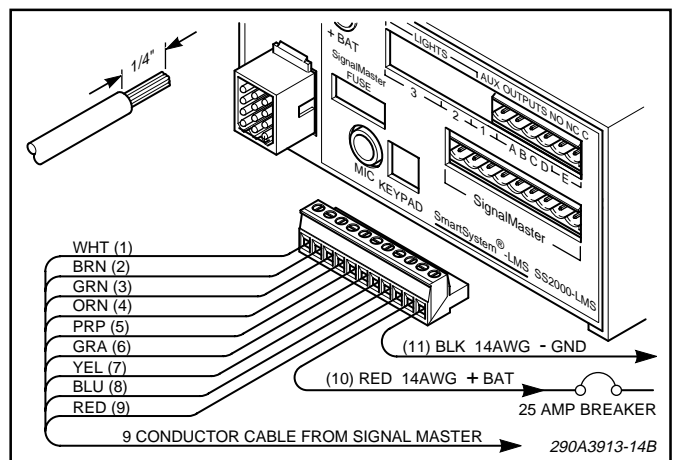

Figure 3-11. SignalMaster Connections.
d. Strip 1/4" of insulation off each wire at the eleven-position connector end. Insert the eight 22-gauge wires, the 16-gauge red wire, and the 14-gauge red and black wires into the connector as shown in figures 3-11 and 3-12. Tighten the screw at